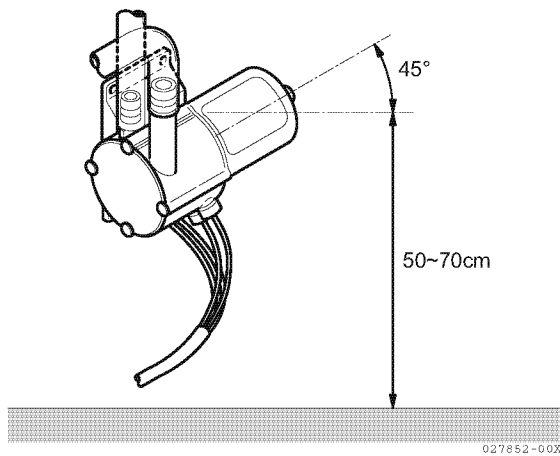

Figure 7-43
- Position at a 45° angle (**Figure 7-43**) with the nozzle facing up, and 50 to 70 cm (19.7 to 27.6 in.) from the bottom of the boat.